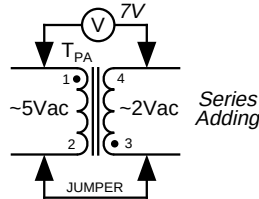

Figure 10. Flyback Transformer
- Check the voltage at the flyback transformer across pins 1 and 2 and pins 3 and 4. See Figure 10.